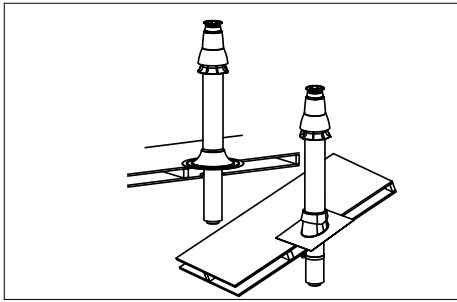

Figure 16
5. Carefully lower the Vertical Termination Cap down through the Flashing from the roof. (**Figure 16**).